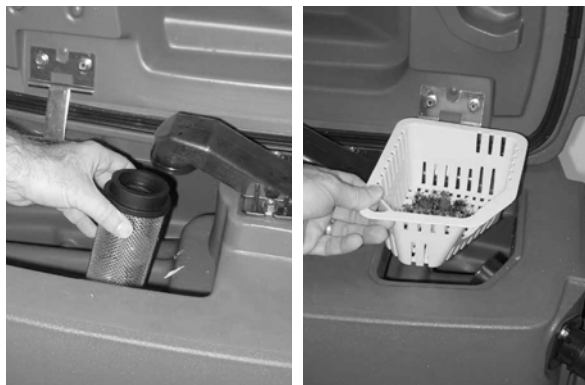

FIG. 30
3. Clean the float shut-off screen and debris tray located in the recovery tank (Figure 30).